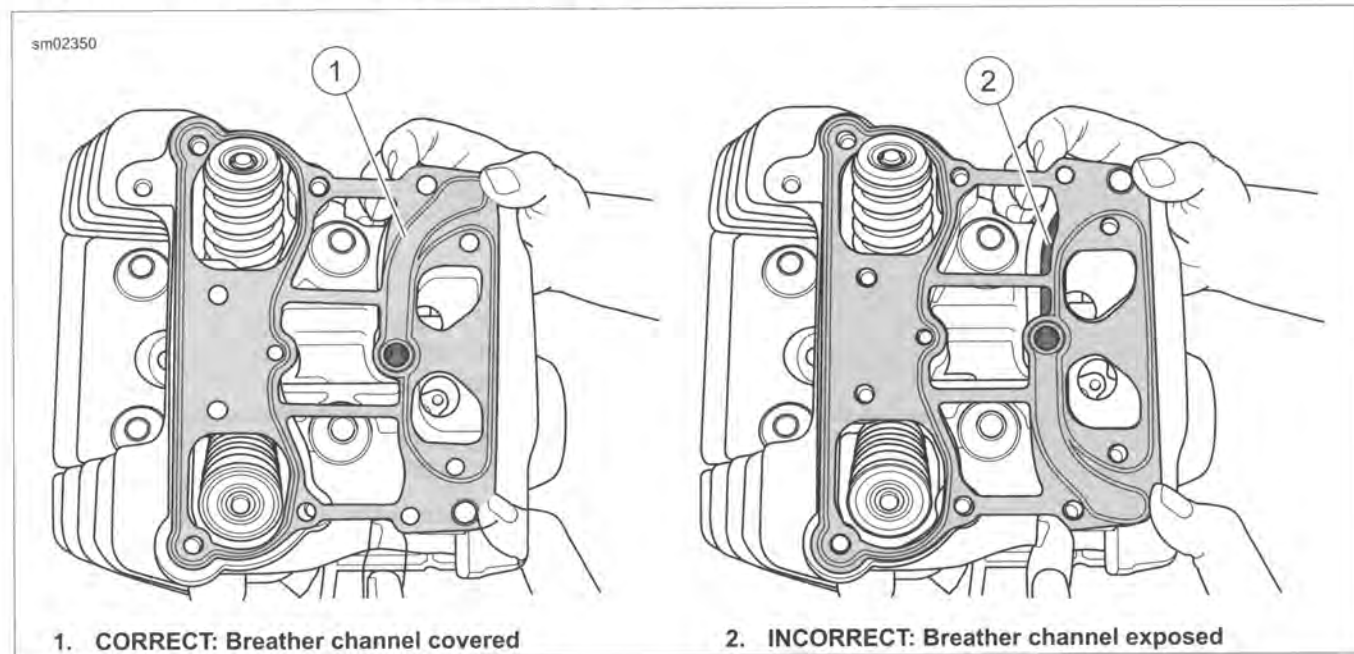

Figure 3-77. Install Rocker Housing Gasket (Rear Cylinder Shown)
8. See Figure 3-77. Install a **new** rocker housing gasket on the cylinder head. Verify that the rocker housing gasket covers the breather channel.